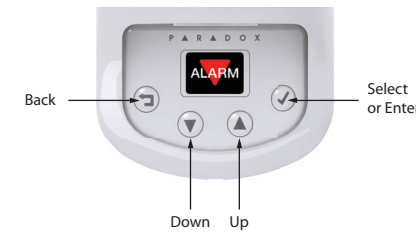

Figure 5: NVX80 OLED Screen and Buttons
- While the captive screw at the bottom of the unit is open, begin the power up process, and access the menus for configuration settings (see Figure 5). For more information about these settings, please see the NVX80 Programming Guide (document NVX80-EP00).
- While the captive screw at the bottom of the unit is open, begin the power up process, and access the menus for configuration settings (see Figure 5). For more information about these settings, please see the NVX80 User Guide (document NVX80-EU00).